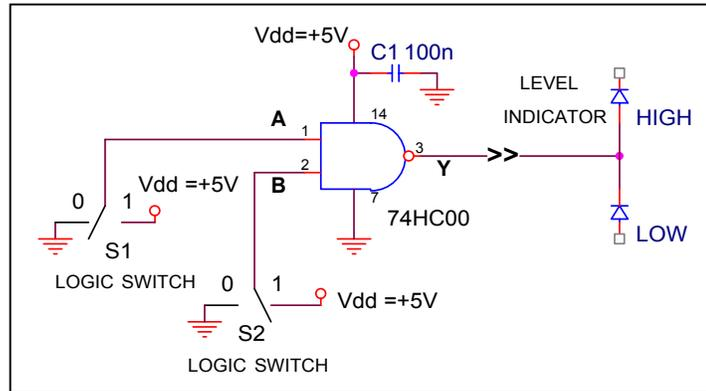

Figure 5.8 The 2-input NAND gate.
1.2.1. Connect the 2-input NAND gate (74HC00) as shown in Figure 5.8. Remember to leave the Power Supply turned off, until you are sure that your circuit is wired correctly. Connect the Y (output) of the gate to the Logic Level Indicator. Attach the input A to the connector of LOGIC SWITCH S1 and input B to the connector of LOGIC SWITCH S2 at the bottom left of your PROTO-BOARD. To achieve better circuit stability, connect capacitor C1 between Vdd and Ground close to pin 14 of the IC 74HC00.